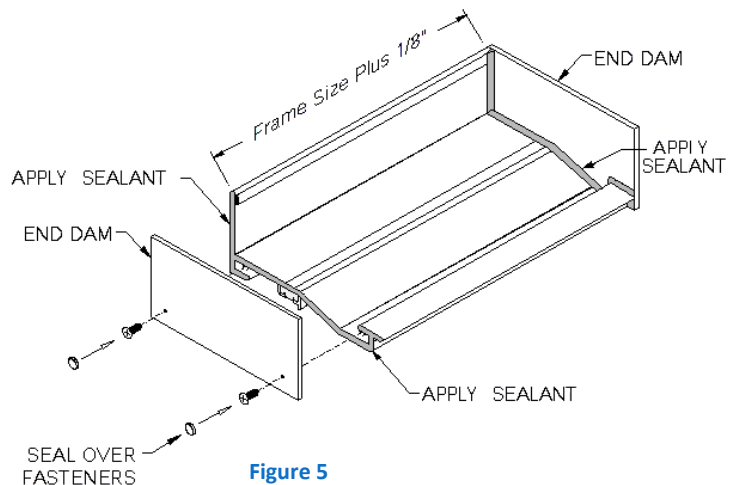

Figure 5
4. Identify end of subsill that will be installed next to terminal sidelite frame. Apply end dam and sealant as per previous section **1.A** on page 7, and figure 5.